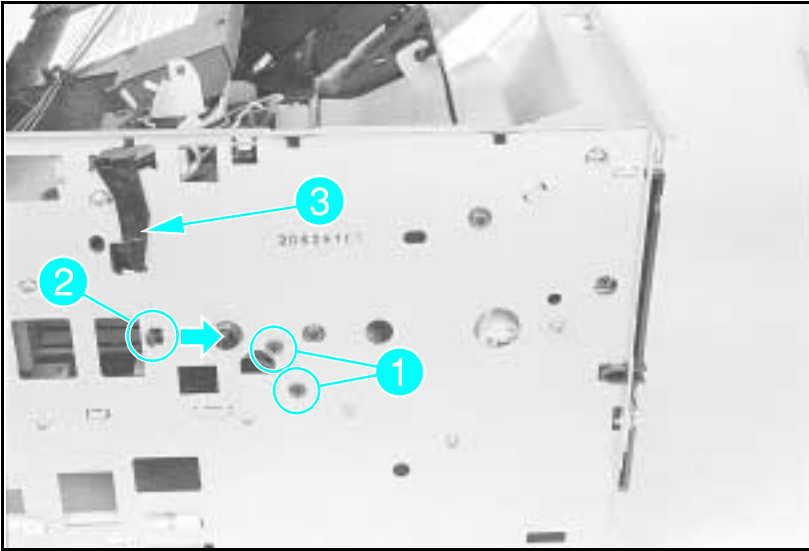

Figure 6-55 Left Toner Cartridge Guide Plate Screw
- 5** From the left side of the printer, remove the (1) or (2) black, self-tapping screw(s) that holds the Left Toner Cartridge Guide Plate (see Figure 6-55, callout 1).
- 6** Release the guide plate latch (see Figure 6-55, callout 2).
- 7** Remove the Laser Shutter Pivot Pin from its seat in the Left Toner Cartridge Guide Plate (see Figure 6-55, callout 3).